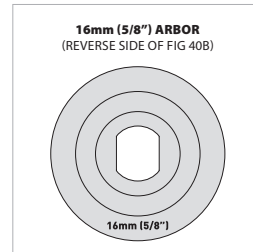

Fig. 40e
- By 'reversing' this silver dual-sided inner-flange, you can also safely fit saw blades with a 16mm (5/8") arbor as available in the USA market (**Fig. 40e**).